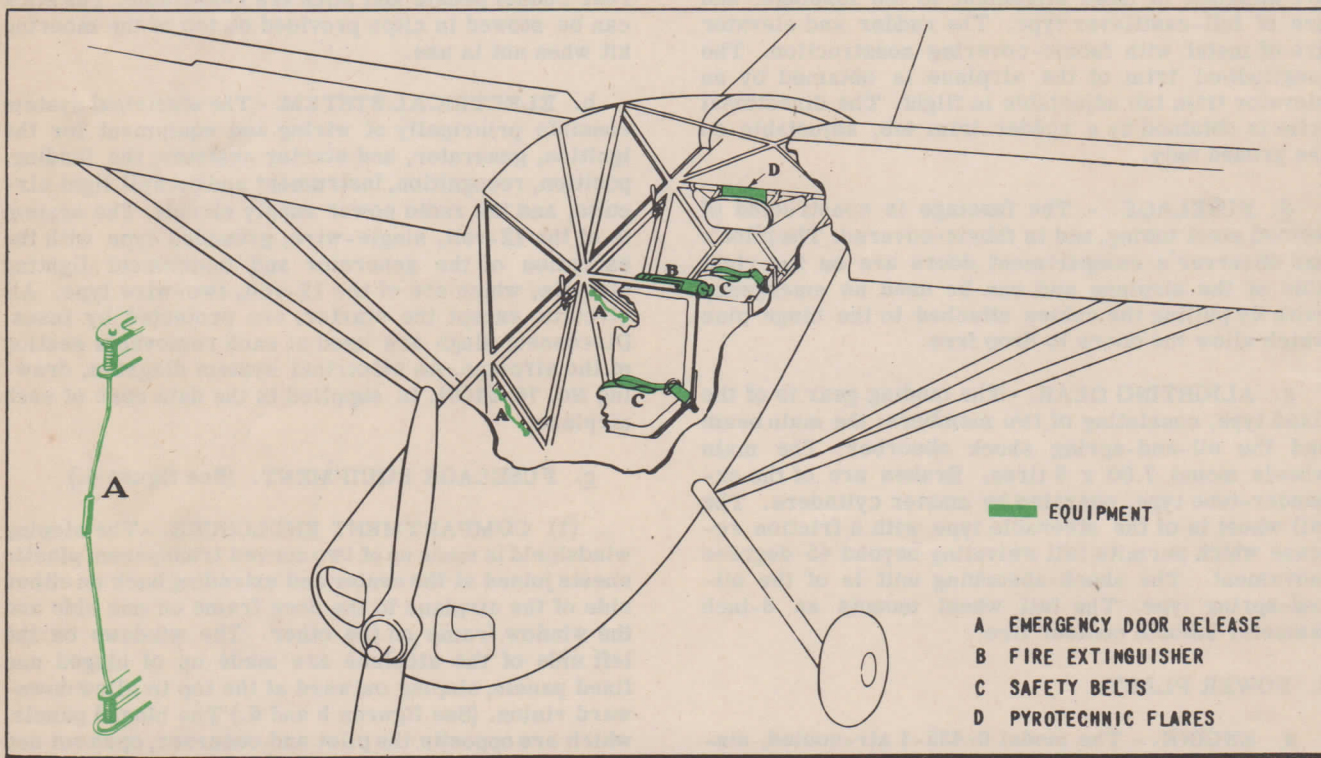

Figure 4 - Emergency Exits and Equipment Diagram
c. **FUSELAGE EQUIPMENT.** (See figure 4.)
i. EMERGENCY DOOR RELEASE. - Unlock the window latch and pull the emergency release handle (red) shown in figure 4 to dispose of the doors.